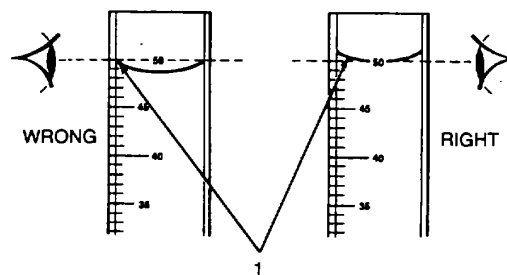

Figure 2-3. Reading the Meniscus.
- Reading the Meniscus (fig. 2-3). The top surface of the water in a container or tube is not flat. Some of the water is pulled-up against the inside walls of the tube. This makes the surface concave. This curved water surface inside the tube is called the meniscus(1). For accurate measurements, the surface level must be read at the bottom of the meniscus. To do this hold the flask or cylinder so the water surface is at eye level. Hold it up against a uniform bright background. (A good technique is to hold a piece of white paper at a slight angle behind cylinder to help highlight the meniscus.) The meniscus will appear as a region at the top of the fluid with a thickness equal to the amount the water is pulled up the sides of the tube. Read the water level at the bottom of this region.